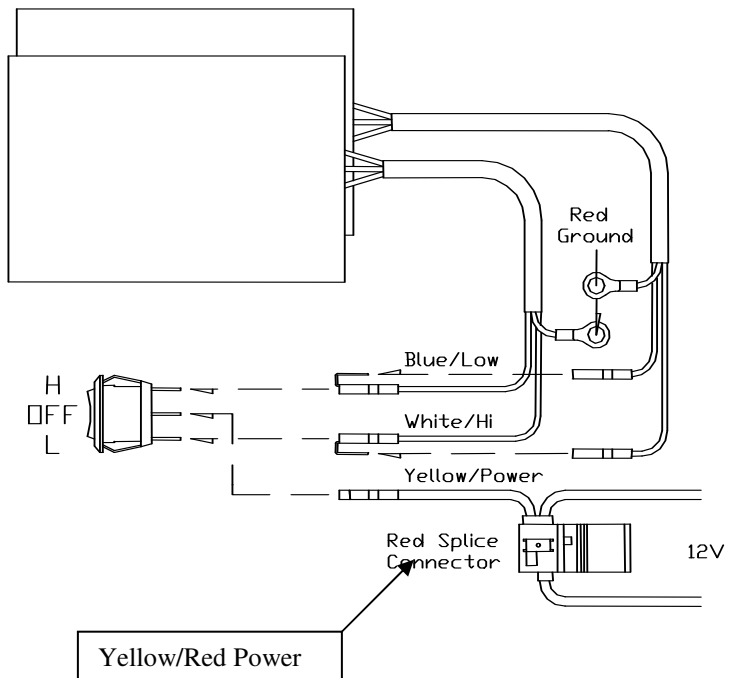

Figure 2 Connector guide & switch connections
9. Attach female slip-on connectors, piggyback connectors and ring terminals as shown in Figure 2. NOTE: A crimping tool works best, or pliers will work using a double crimp approach (top crimp first and then a side crimp)
10. Connect hand warmers to switch according to Fig. 2
squeezing the metal contact flush with top of connector. Close the hinged cover until latched. See Fig. 2 for connection to switch. **Note:** For protection against electrical shorts, a fuse (not included) could be installed between the tap connector and the switch. Fuse would be a 5-amp capable of handling at least 60 watts.